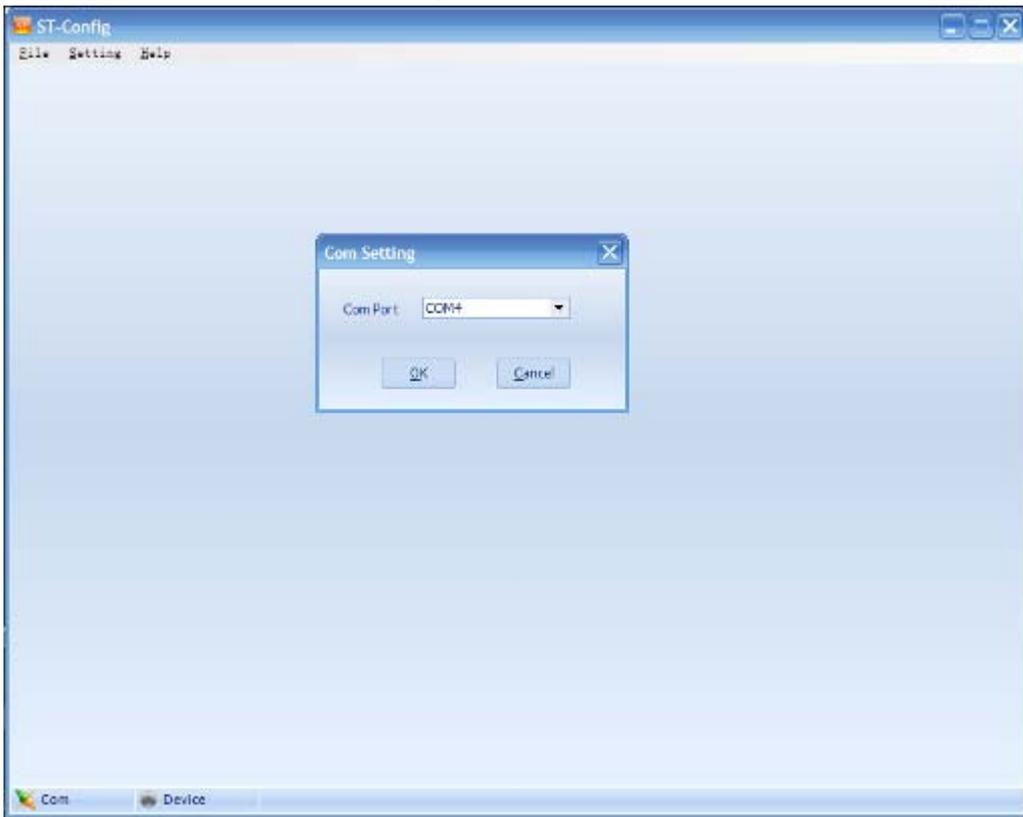

Figure 5
(2) Choose the corresponding com in the com setting window, then press OK button.(Figure 5)